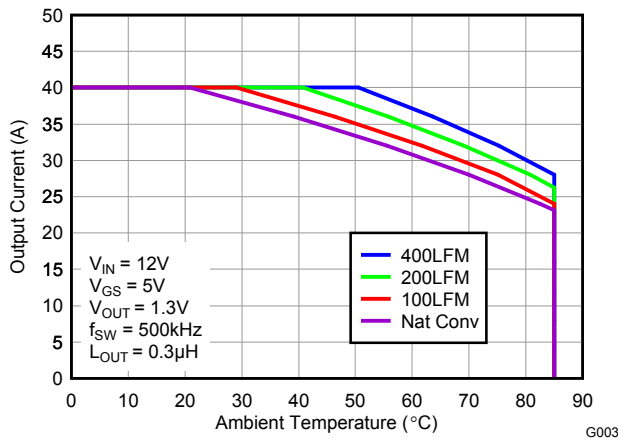

Figure 3. Safe Operating Area – PCB Vertical Mount(1)
The SOA curves in the CSD86350Q5D data sheet provides guidance on the temperature boundaries within an operating system by incorporating the thermal resistance and system power loss. Figure 3 to Figure 5 outline the temperature and airflow conditions required for a given load current. The area under the curve dictates the safe operating area. All the curves are based on measurements made on a PCB design with dimensions of 4" (W) x 3.5" (L) x 0.062" (T) and 6 copper layers of 1 oz. copper thickness